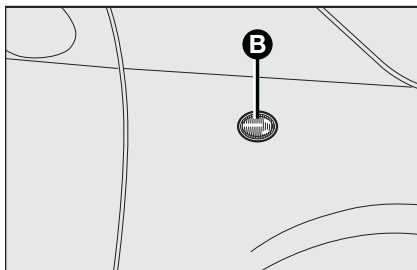

fig. 23
- prise in the point indicated by the arrow, so as to compress the fixing clip and extract the assembly **B**-fig. 23;